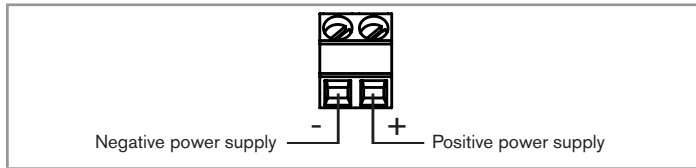

Fig. 6 : Terminal assignment of a sensor with cable plug PG7
4. Wire the sensor according to Fig. 6 and according to the remote controller type 8619. Refer to the related Operating Instructions.